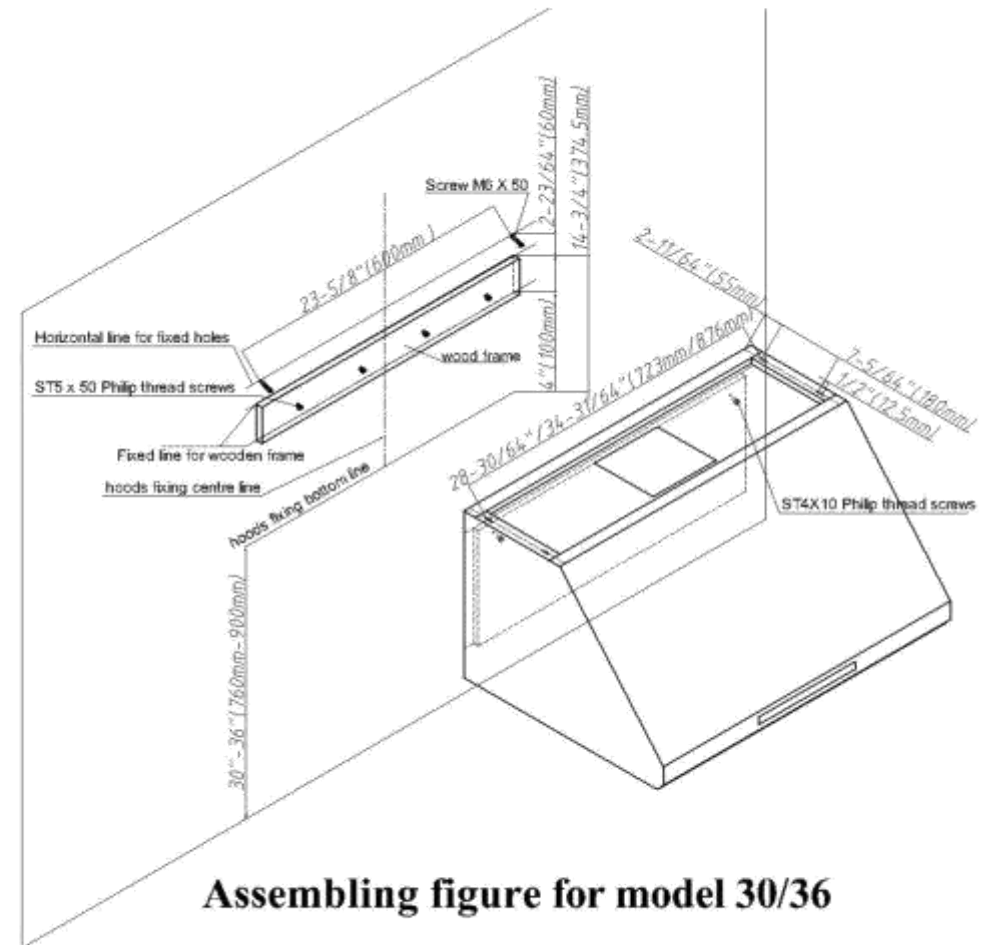

Fig. 6
- First, affix the M6 x 50 screws onto the wall (Fig.5/ Fig.6).
- Align the hood to the wood frame squarely (Fig.5/ Fig.6).